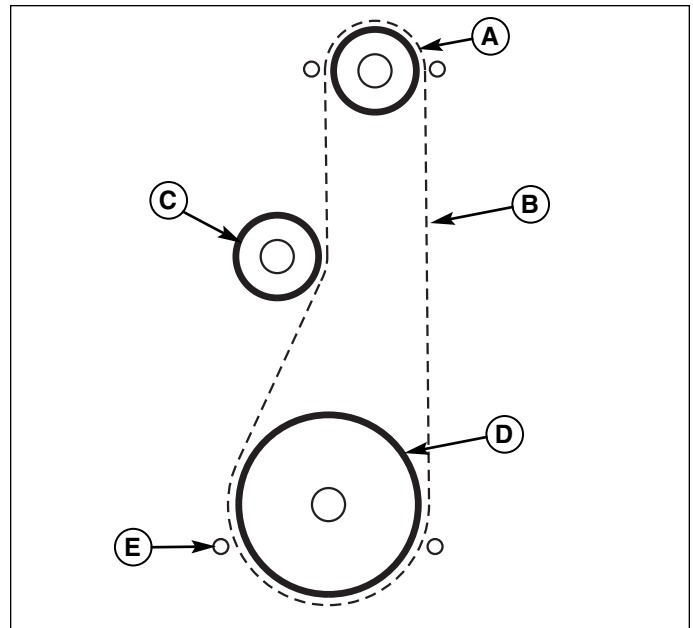

Figure 27. Auger Drive Belt Pattern
2. Pull the drive belt idler pulley arm away from the belt to relieve tension, and slide the belt off engine pulley (A, Figure 27).